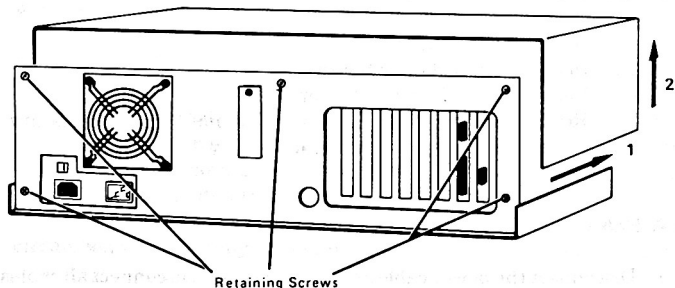

Figure 2-2
5. Remove the 5 cabinet retaining screws. Then holding the sides of the upper cabinet, slide it forwards about 20 - 30 mm (approx. 1 inch) and then lift it away (see Figure 2-2). It may be necessary to tap the back of the cabinet lightly.